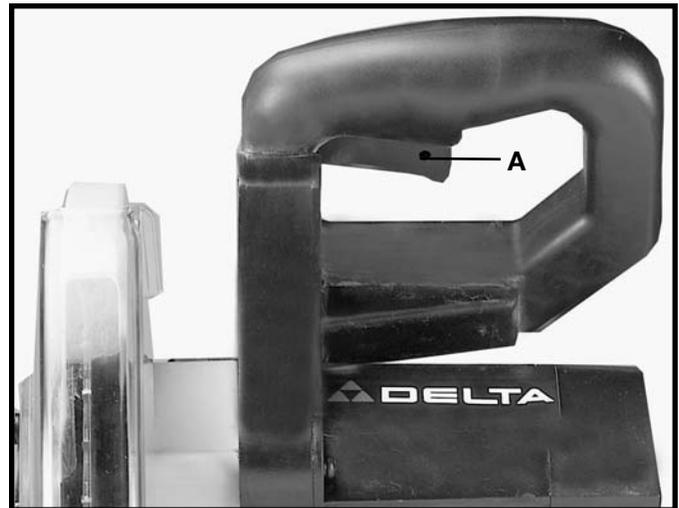
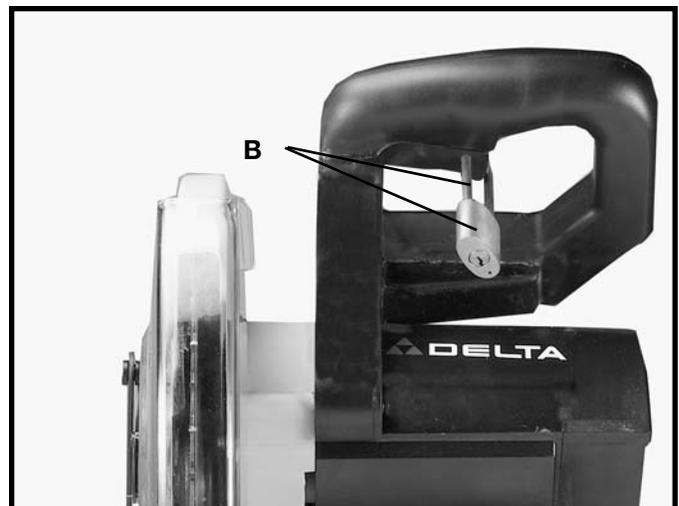

Fig. 13
Fig. 14
To start the machine, depress switch trigger (A) Fig. 13. To stop the machine, release the switch trigger.
This miter saw is equipped with an automatic electric blade brake. As soon as the switch trigger (A) Fig. 13, is released, the electric brake is activated and stops the blade in seconds.
**⚠ WARNING: A TURNING SAW BLADE CAN BE HAZARDOUS. AFTER COMPLETING CUT, RELEASE SWITCH TRIGGER (A) FIG. 13, TO ACTIVATE BLADE BRAKE. KEEP CUTTINGHEAD DOWN UNTIL BLADE HAS COME TO A COMPLETE STOP.**
**IMPORTANT:** When the miter saw is not in use, the switch should be locked in the “OFF” position using a padlock (B) Fig. 14, (with 3/16" diameter shackle) through the two holes in the switch plate, as shown in (A) Fig. 13. NOTE: Padlock shown is available as accessory Model 50-325.